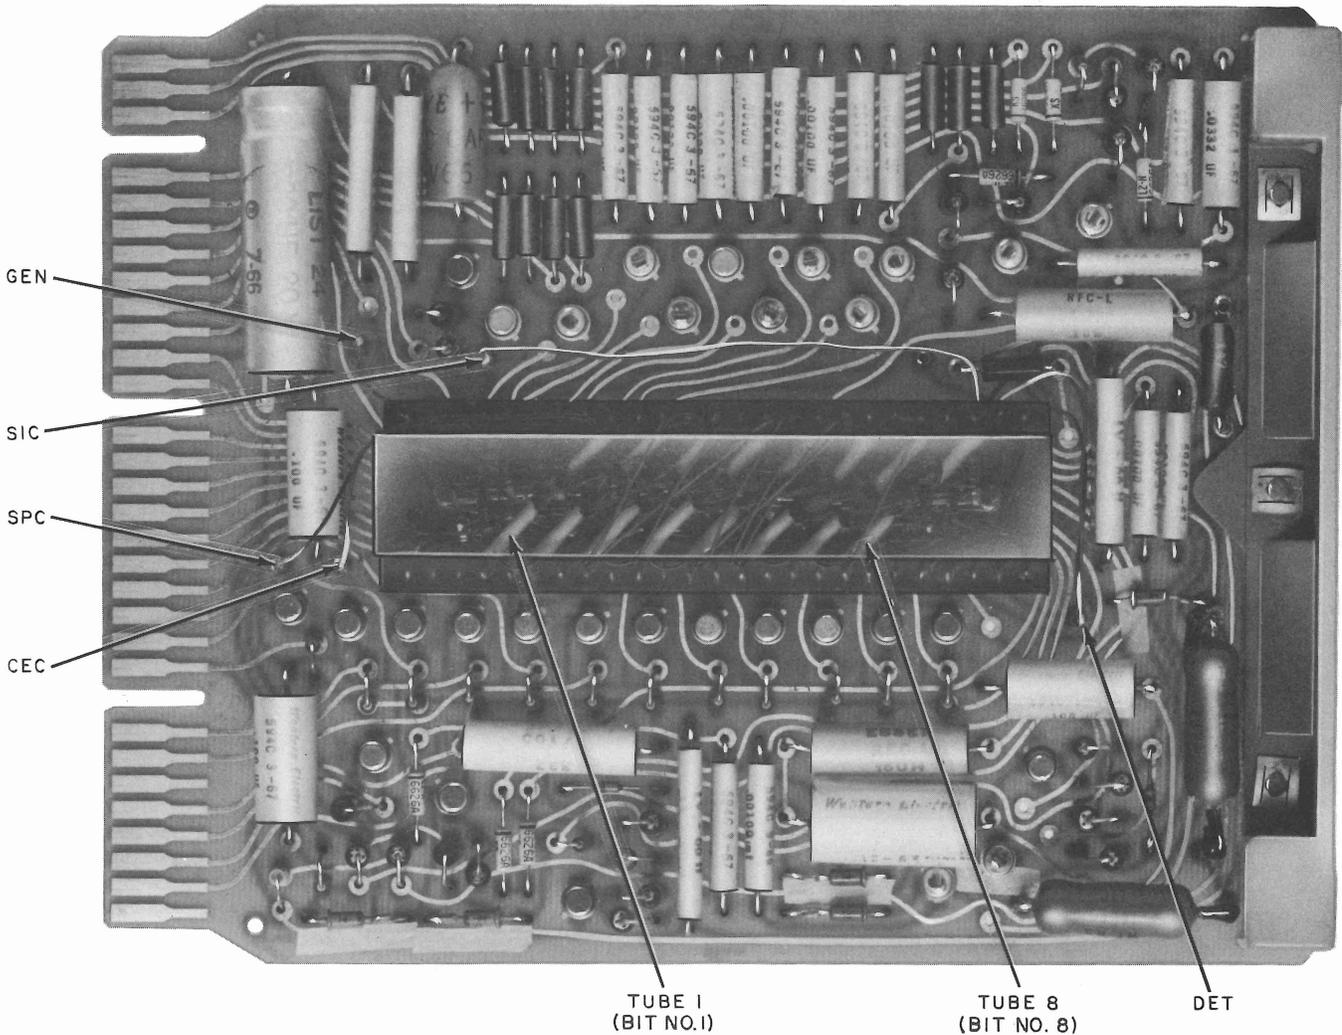

Fig. 3—Circuit Pack AR37, Location of Terminals For Wiring Shift Register
3.02 The CP AR37 should be positioned as shown in Fig. 3. It is suggested that the encoding of the shift register be performed on a flat surface properly protected.
- (4) Connect an end of one above-mentioned conductor (3) to the GEN terminal (Fig. 3).
- (6) At the completion of threading, remove the excess length of wire and connect the free end of this conductor to the SIC terminal (Fig. 3).
- (7) Connect one end of another above-mentioned conductor to the SPC terminal (Fig. 3).
- (9) At the completion of threading, remove the excess length of wire and connect the free end of this conductor to the DET terminal (Fig. 3).
- (10) Connect one end of the last of the three mentioned conductors to the CEC terminal (Fig. 3).
- (12) At the completion of threading, remove the excess length of wire and connect the free end of this conductor to the DET terminal (Fig. 3).